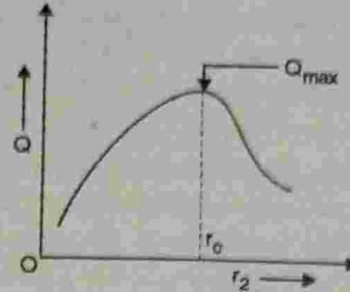

Fig. 2.10.3 : Variation of heat transfer w.r.t. insulation radius
- If we plot Q as a function of r_2 , (Refer Fig. 2.10.3), we see that Q first increases with increase in r_2 and then decreases passing through a maximum value.